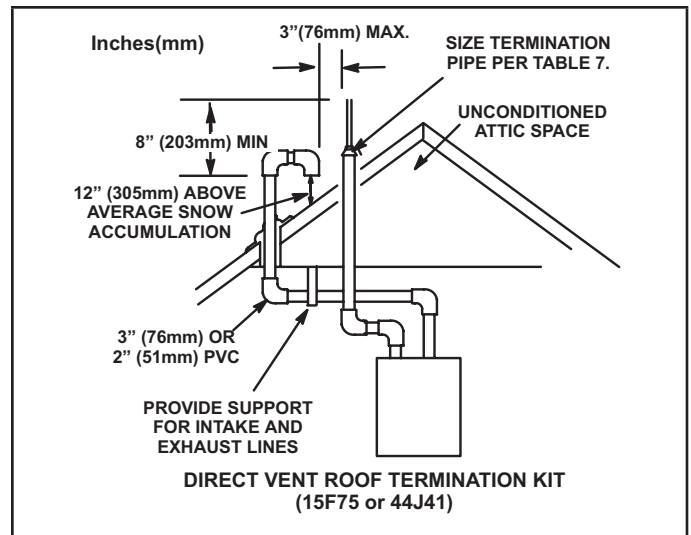

FIGURE 30
Intake and exhaust pipes may be routed either horizontally through an outside wall or vertically through the roof. In attic or closet installations, vertical termination through the roof is preferred. FIGURE 30 through FIGURE 38 shows typical terminations.
- 3 - On roof terminations, the intake piping should terminate straight down using two 90° elbows (FIGURE 30).